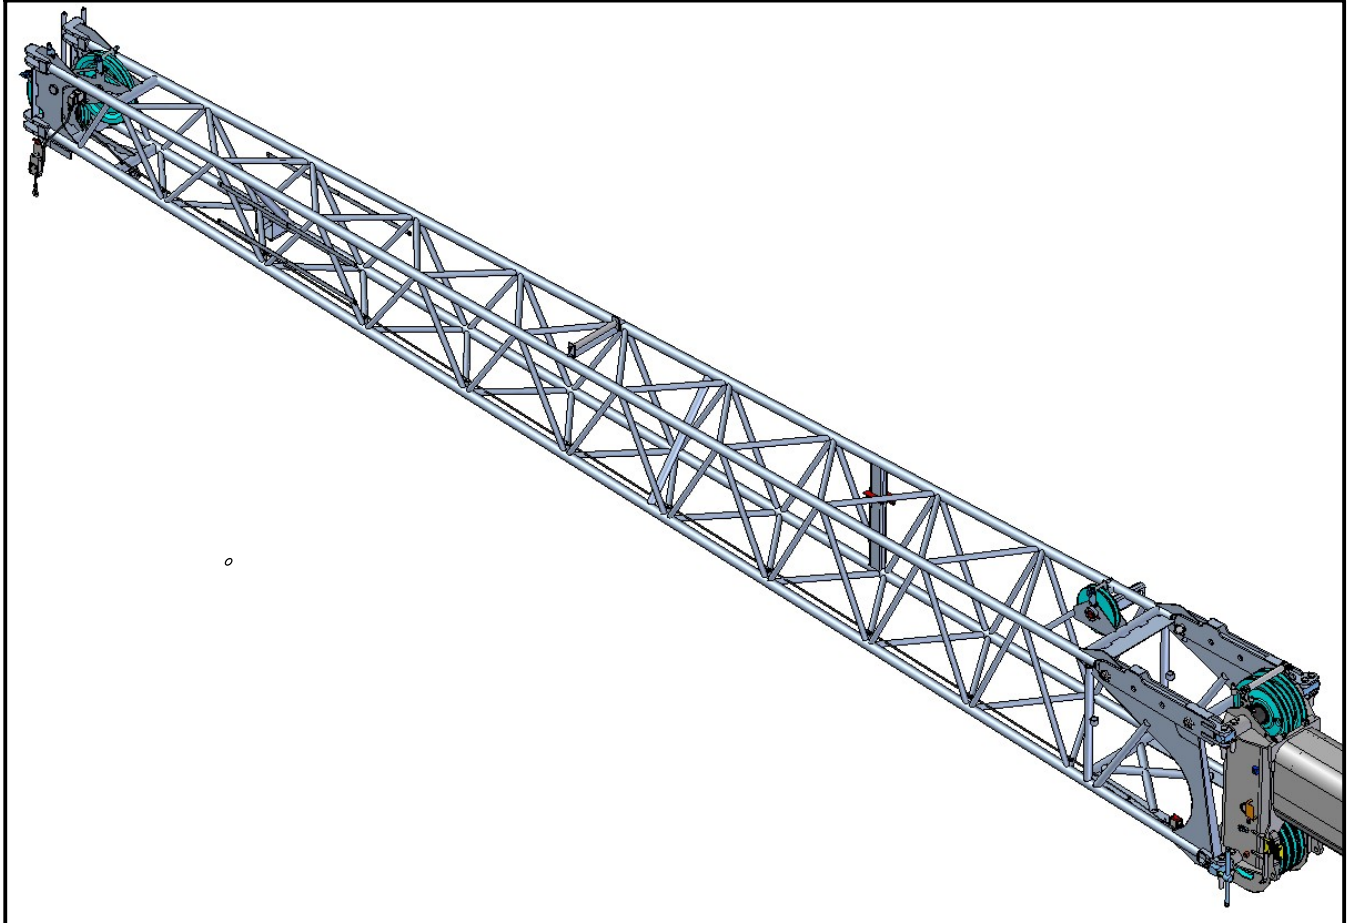

Figure 4–4
4. Adequately support the auxiliary lifting sheave with an appropriate lifting device. It weighs approximately 97 lb (44kg). Position the auxiliary lifting sheave frame under the boom head cross shaft. Align the holes in the auxiliary lifting sheave frame with the lugs in the main boom and install capscrews, locknuts, and washers. Refer to Figure 4–2.
to the auxiliary arm connector. Refer to Figure 4–2.
- a. Disconnect the plug assembly from the auxiliary lifting sheave and connect it to the jumper assembly on the main boom head. Refer to Figure 4–2.
8. Adequately support the auxiliary lifting sheave. It weighs approximately 97 lb (44kg). Remove the capscrews, locknuts, and washers. Remove the auxiliary lifting sheave. Refer to Figure 4–2.
4. Use care handling the fly section(s) or extension(s) when loading, transporting, and unloading. Damage that occurs during these operations can go undetected and could result in failure of the attachment, once subjected to loading. Do not attach slings to the lattices, when lifting the fly, as they will bend. It is recommended that the connecting lugs and/or head machinery cross shaft be used as the lifting points. However, it is permissible to attach nylon straps around all four main chords. Refer to Figure 4–3.
The crane may be equipped with a 35 ft (10.67m) one piece offset lattice fly. The offset lattice fly, as shown in Figure 4–4, connects to the main boom head. It can be mounted in one of four offset positions: 2°, 15°, 30°, or 45°. Once installed, the offset lattice fly can be stored on the right side of the boom base section.
4. Check that the fly adaptor lug and offset connecting pins are installed in the 2° offset position. Refer to Figure 4–13.
5. Position the fly on secure blocking. The fly weighs approximately 1,595 lb (723kg). Refer to Figure 4–5.